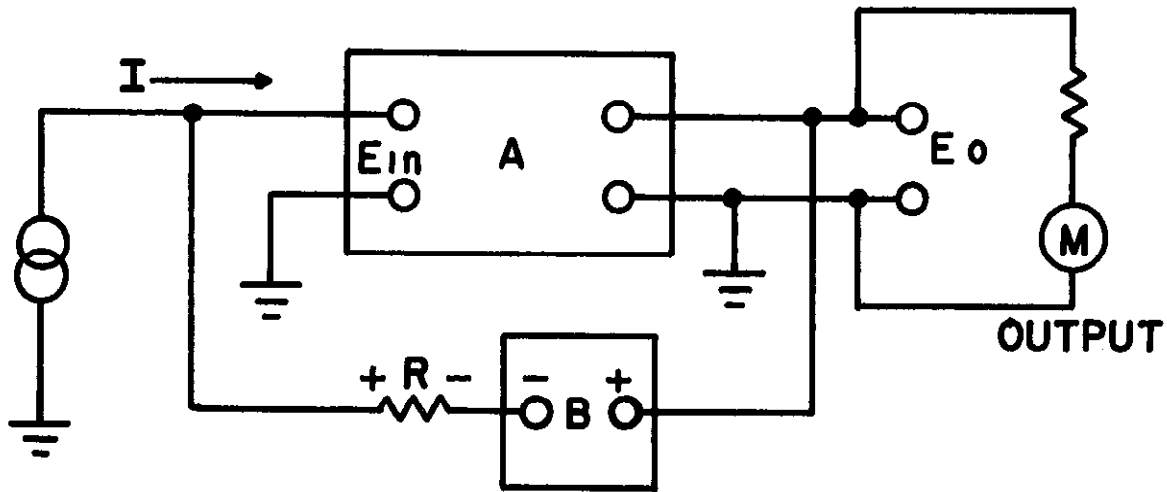
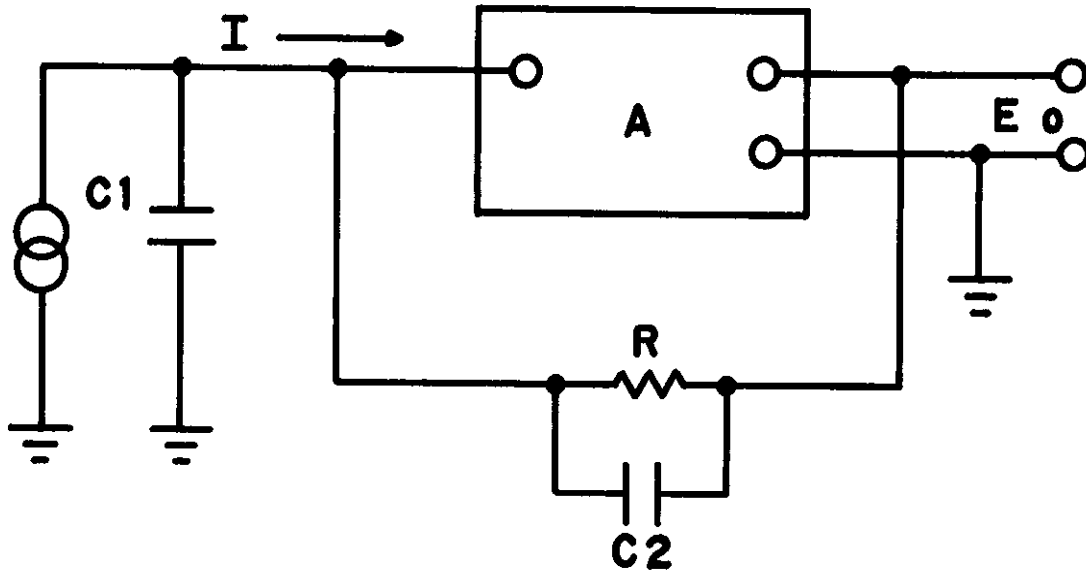

FIG. 1
FIG. 2
- (1) **The Electrometer:** In block A Figure 1 is a high gain amplifier with electrometer tube input. It can be assumed with a high degree of accuracy that current neither enters or leaves its input terminals. The amplifier is so arranged that the output is the negative of the input. Therefore, since a feedback connection exists between e_o and the input, any positive voltage appearing at the input of A, will cause a negative voltage applied through R and B. If, for the moment, we omit the box labeled B from the discussion, the voltage e_o will increase until it equals iR , the drop across the resistor. This is necessary since this feedback connection results in a circuit designed to keep the input drop to a minimum. Therefore, as a first approximation,
- (2) **Current Suppression:** In Figure 1, when an input current is flowing, the output voltage is iR from (1). The output assumes this voltage in order to balance out the input current so that the input terminal remains at ground. Either the output must supply this voltage, in which case the meter indicates a reading; or a voltage may be inserted in series with the feedback.
resistor opposite in polarity and equal to the drop across the feedback resistor, R. In Figure 1, B represents this buckout voltage. If B is now adjusted to precisely the voltage across R, the meter will return to zero, since no voltage need be applied to keep the input at ground even though a current is flowing. This is the method used in the Model 415 for zero suppression. By having B variable from zero to 100 volts, up to 100 times zero suppression may be achieved if one full scale corresponds to a one volt drop across the feedback resistor, R.
In Figure 2, the circuit of Figure 1 is redrawn to show the capacities associated with the circuit. C_1 is the input capacity and C_2 is the capacity across the feedback resistor. The buck-out supply, has been omitted since it is by-passed for ac. The response of this circuit to a current step is given by